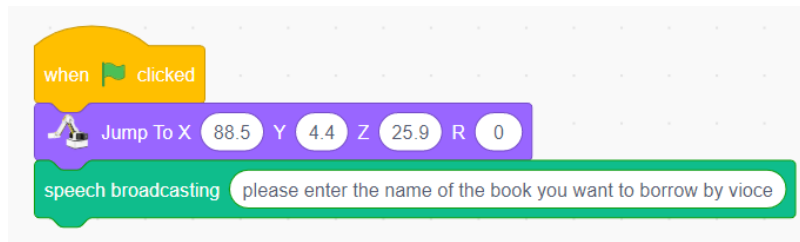

Figure 5.13 Initializing the position of the robotic arm
Step 7: Start writing the book borrowing program. Set the initial position of the robotic arm, and prompt the student by voice to enter the title of the book to be borrowed, as shown in Figure 5.13.